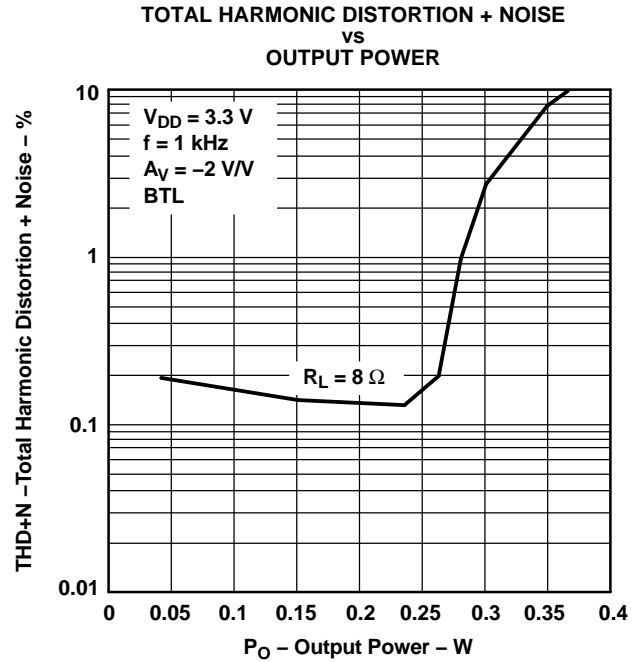

Figure 9.
| $P_O$ Output power (1)            | THD = 0.5%, See Figure 9  |     | 250   |     | mW                 |